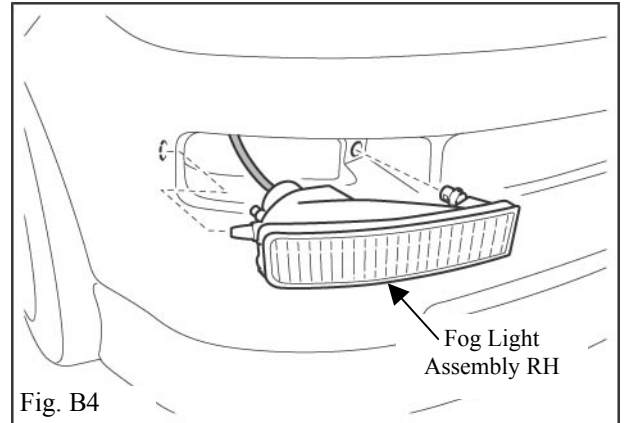

Fig. B4
7. Install the fog light assembly RH to opening. (Fig. B4)